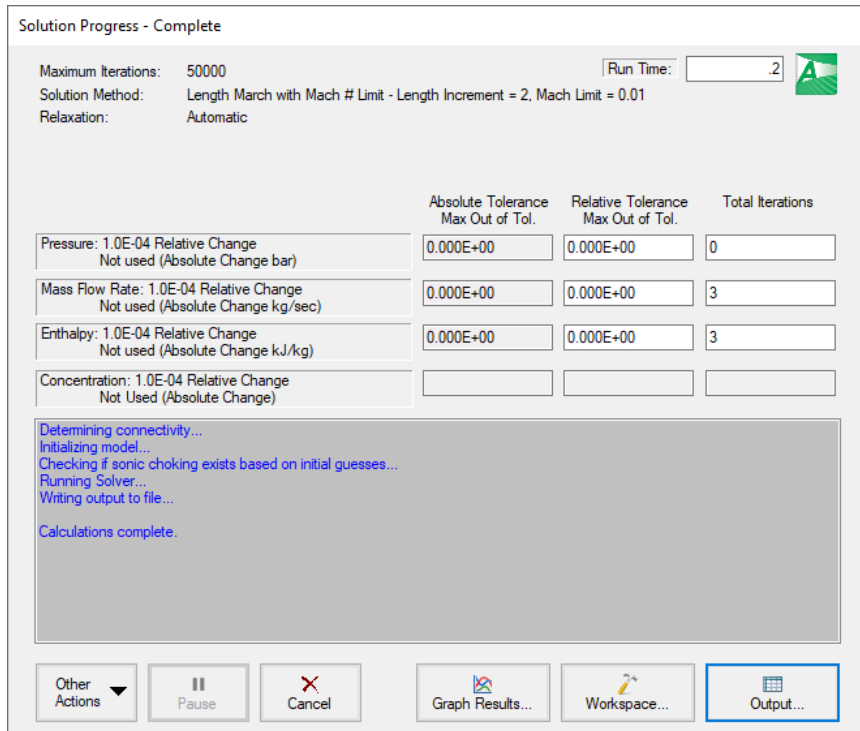

Figure 2.13 The Solution Progress window displays the Solver's convergence progress
- Choose “Run Model” from the Run Model icon on the Main Toolbar or the Analysis menu. During execution, the Solution Progress window is displayed and can be used to pause or cancel the Solver's activity (see Figure 2.13). When the solution is complete, click the Output button and the text-based Output window will appear (see Figure 2.14). The information in the Output window can be reviewed visually, saved to file, exported to a spreadsheet-ready format, copied to the clipboard, printed to PDF, or printed out on the printer.